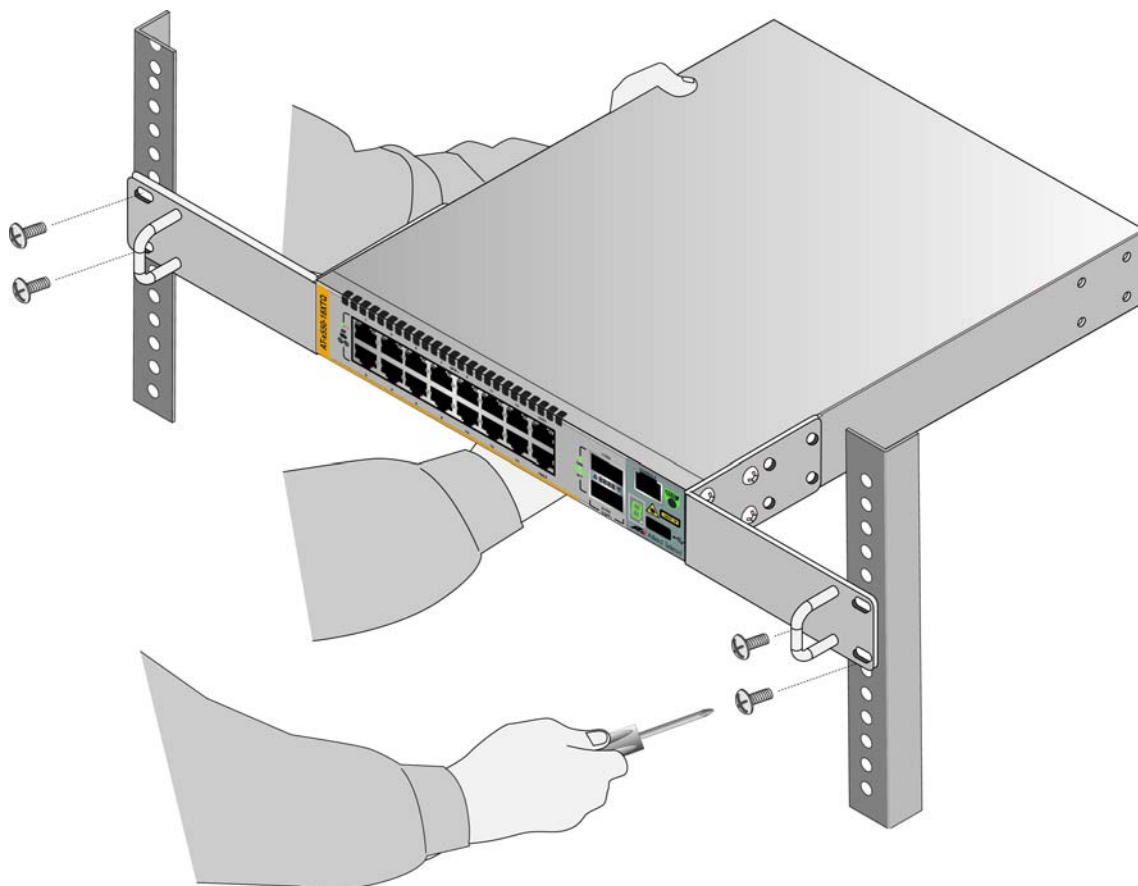

Figure 27. Installing the Switch in an Equipment Rack
4. Have another person hold the switch at the desired location in the equipment rack while you secure it using four standard equipment rack screws (not provided). Refer to Figure 27.